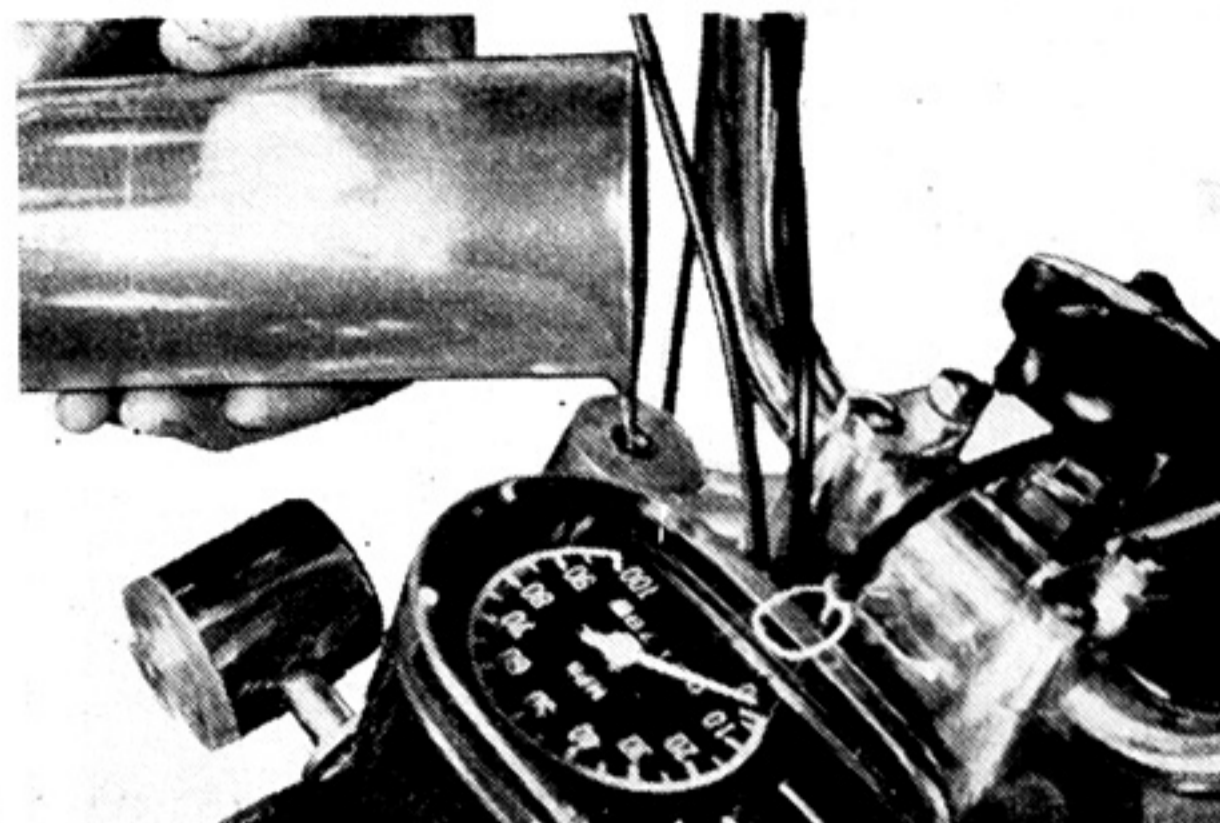

Fig. 4-5-8
2) Fill the inner tube with the specified front fork oil through the end opening of the tube. (Fig. 4-5-8)